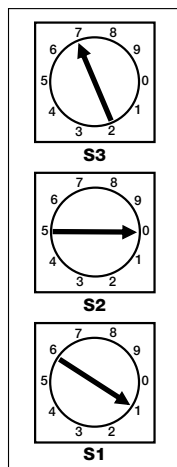

FIGURE 4a
- If the unit is a DMX style unit, it will have rotary switches on the PCB on the side towards the power supply. Using a small screwdriver, set the following address on the switches (See FIGURE 4a).